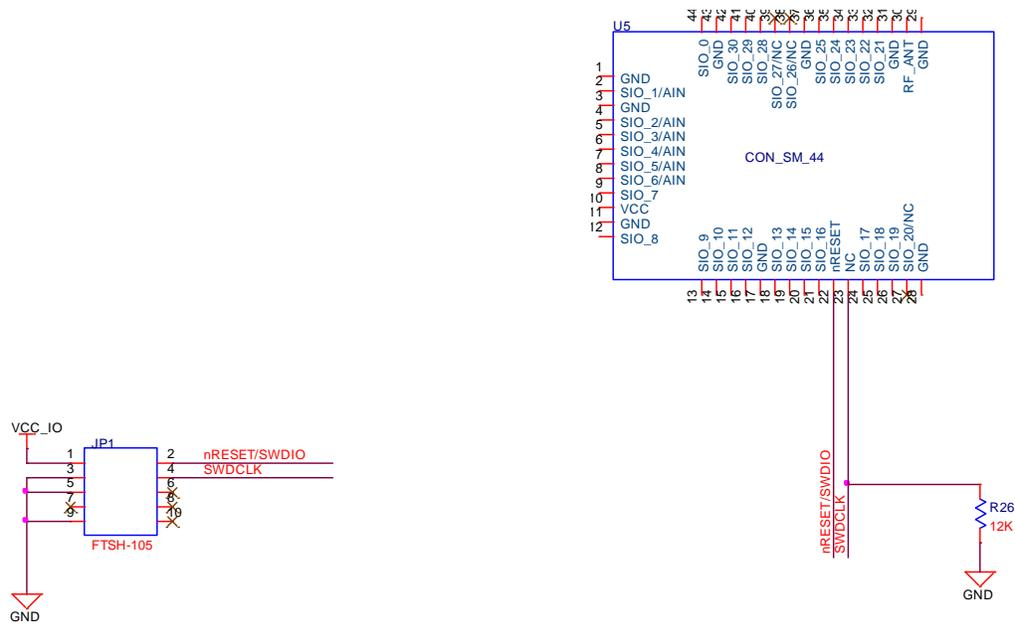

Figure 9: Wiring for JTAG connector to hidden JTAG on BL600 module
**Note 1:** Reference on BL600 development board schematic. Figure 9 shows the BL600 development schematic wiring only for the JTAG connector and BL600 module hidden JTAG pins.